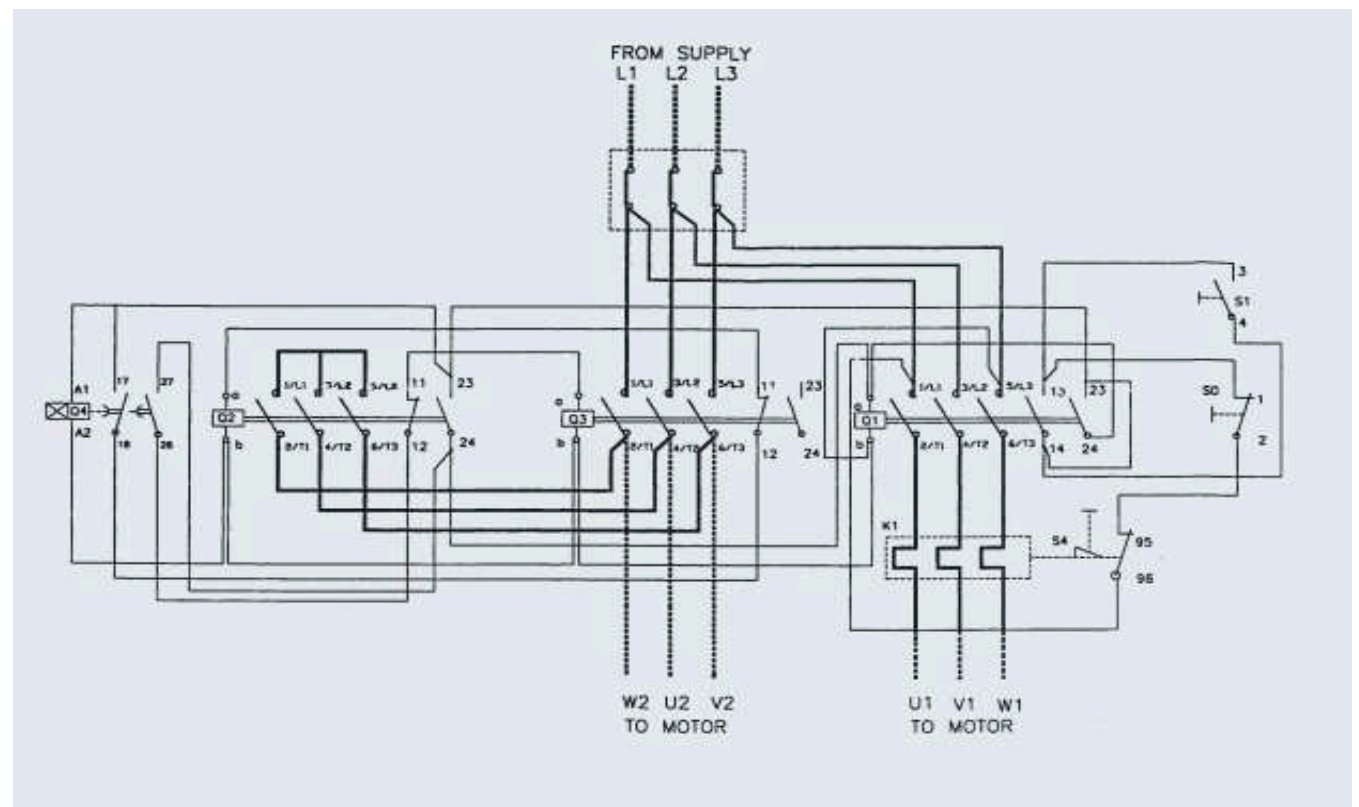

Figure 7: wiring Diagram
- 6 Check that line and motor connections are done as per wiring diagram (Figure 7) which is also pasted inside the door.